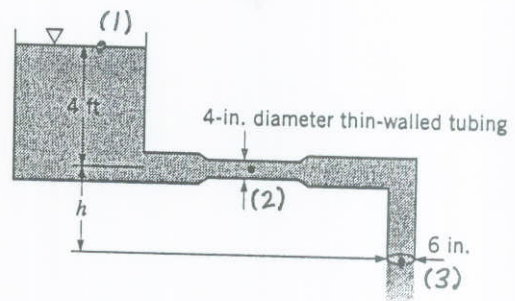

FIGURE P3.64
3.64 Water flows steadily with negligible viscous effects through the pipe shown in Fig. P3.64. It is known that the 4-in. diameter section of thin-walled tubing will collapse if the pressure within it becomes less than 10 psi below atmospheric pressure. Determine the maximum value that  $h$  can have without causing collapse of the tubing.